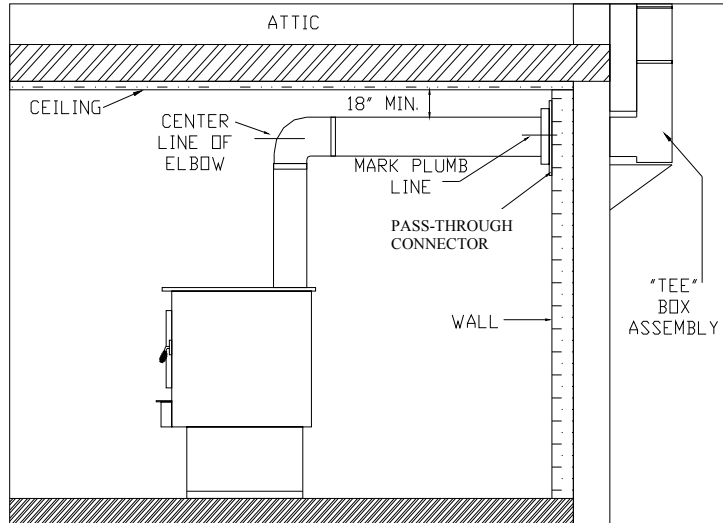

FIGURE 6 FLUE EXIT
1. Mark the plumb line on the wall directly behind the center of the heater. (See Figure 6)
3. Measure up so there will be at least 1/4" rise per foot of horizontal connector pipe, maintaining clearances to the ceiling as noted in Figure 6. This will give you the center of the hole for the chimney penetration.